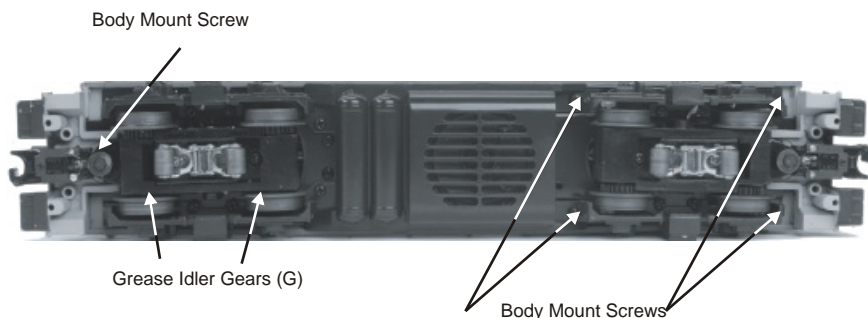

Figure 6: Mounting Screws
1. Remove the Body Mounting Screws from the chassis, as seen in Figure 6, then lift the body away from the chassis.
2. Remove the truck blocks from the chassis by unscrewing the large Phillips motor mount screw on the bottom of each truck block, as shown in Figure 6.